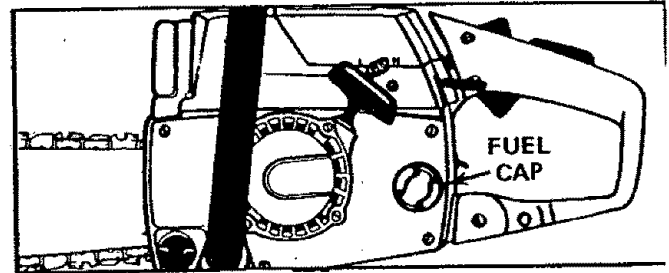

Figure 16
- Slowly remove fuel cap. See Figure 16 for location.